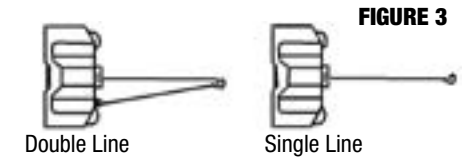

FIGURE 3
- 2. DO NOT EXCEED RATED CAPACITY OF THE WINCH. DO NOT OVERLOAD! DO NOT ATTEMPT PROLONGED PULLS OF HEAVY LOADS!** Overloads can damage the Winch and/or the wire rope and create unsafe operating conditions. **FOR LOADS OVER 75% OF THE RATED WINCH CAPACITY, WE RECOMMEND THE USE OF A PULLEY BLOCK TO DOUBLE LINE THE WIRE ROPE.** (Figure 3). This reduces the load on the Winch, the strain on the wire rope and electrical system.